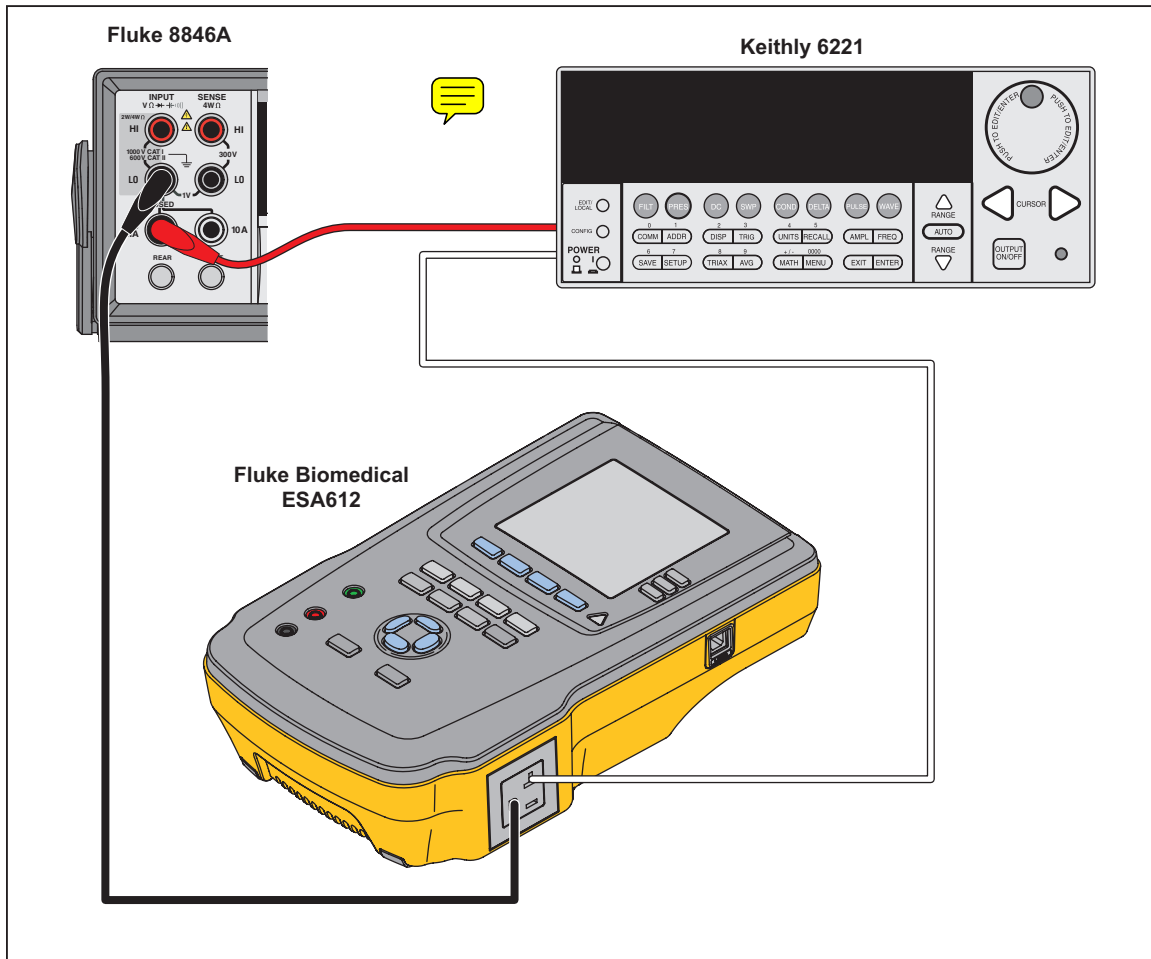

Figure 3-34. Differential Leakage Calibration Connections
1. ~~Connect the current source to the EO neutral and the 400 mA jack of the DMM. Connect the DMM Input (-) to the EO ground. See Figure 3-34. Set the current source to 15.0 mA (21.21 mA p-p), 120 Hz with a 10 V compliance voltage and the DMM to 100 mA ac range.~~